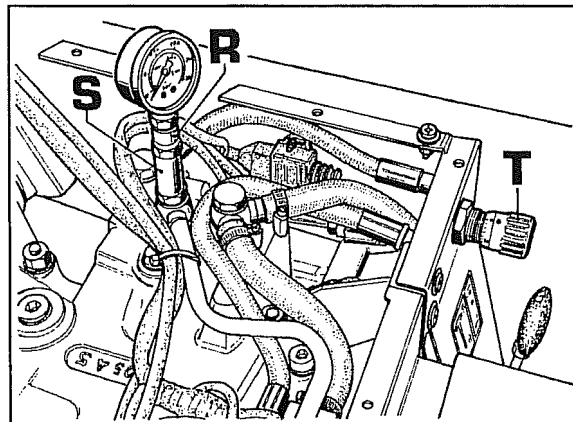
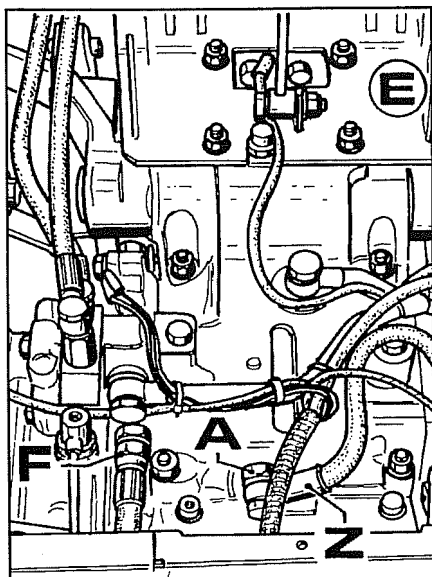

Fig. 23
Fig. 27
If the tractor does not have rear auxiliary spooling valves, once the seat has been removed, connect the delivery hose of the solenoid assembly as illustrated in Fig.23, using the special combination tool **R-S**. Don't forget that for tractors up to chassis N° B455169 use the same tool to make the connection but eliminate the **S** part.
If the gauge is connected to the solenoid assembly delivery line, shut valve **T** Fig.23, turn the lift lever to Raise (holding the safety button down) and check the pressure on the gauge
To check for leaks inside the lift casing, couple the lift to an implement and set it on "raise". If the tractor is equipped with valve **T** Fig.23, the valve should be closed.
If the lift lowers, this means that there is an internal oil leak either in the lift cylinder or on the delivery hose fitting (**A** Fig.27).
3. Disconnect hose **Z** Fig.27 and unscrew fitting **A** from the lift casing.
- Remove the seat mount **E** Fig.27, disconnect the wiring to the solenoids, the limit switch and the earth circuit cables (see Fig.27).
- Disconnect the oil delivery hose **F** Fig.27 from the spooling valve mount and the oil delivery valve (**T** Fig.23) from the cylinder.